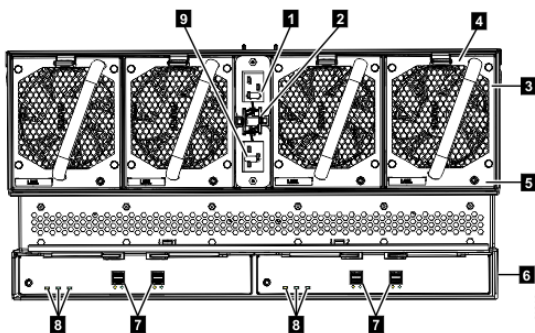

Figure 49. Features on the rear of the 5U expansion enclosure
3. Verify that the expansion enclosure and its components are operating as expected. On the back of the expansion enclosure, all four fans and the expansion canister indicators (3 and 8 in Figure 49 on page 88) become active when the power is connected.